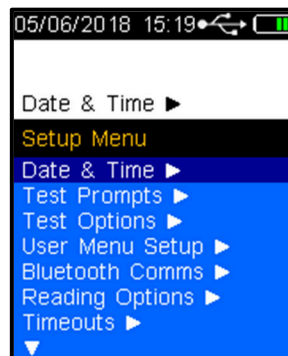

Figure 31 - Setup Menu
- Press the Test Key until the Setup Menu is displayed (Refer to Figure 31).